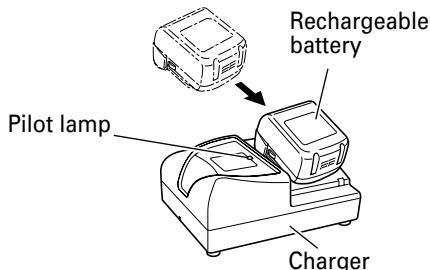

Fig. 4
- Insert the battery into the charger. Firmly insert the battery into the charger until the line is visible, as shown in Fig. 4, 5.